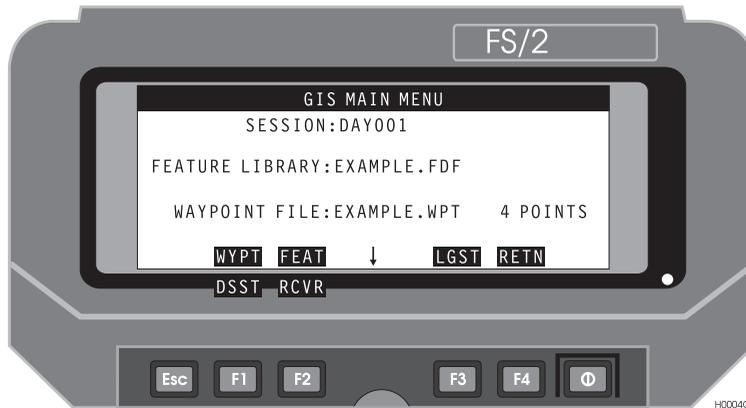

Figure 3.3: GIS Main Menu
2. Press **F3 (GIS)**, to call the GIS Main Menu, Figure 3.3.